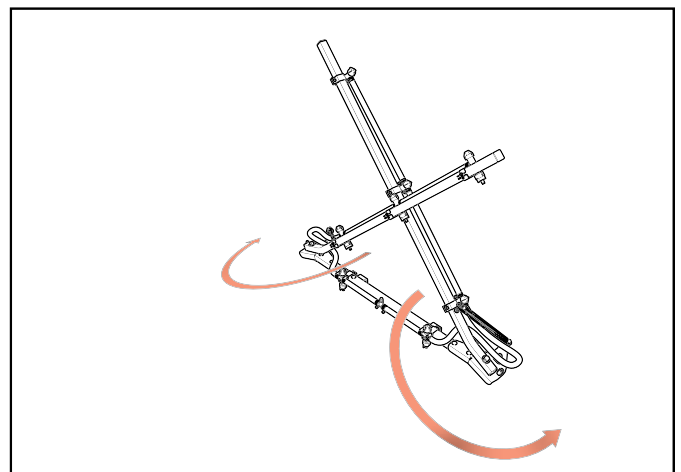

Figure 1: Unfolding the boom
1. Unfold the boom by pulling the boom wings toward the rear of the sprayer as shown (Figure 1).